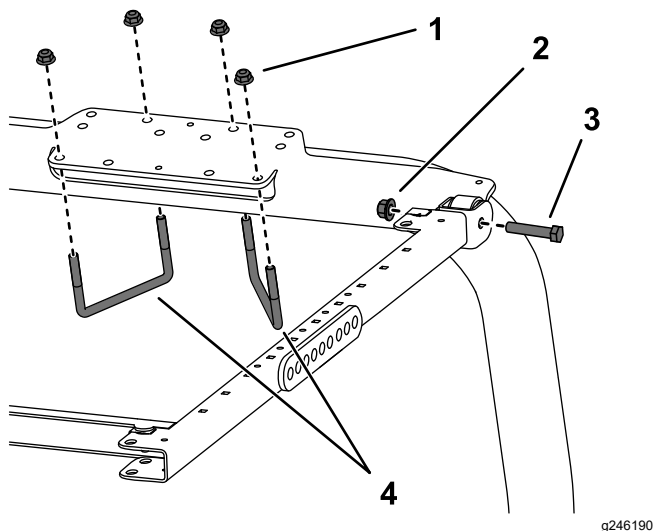

Figure 31
7. Position the ROPS-mount bracket onto the top of the traction unit roll bar (Figure 31). Make sure that the roll bar is centered in the ROPS-mount bracket.
8. Using the mounting holes shown in Figure 31, secure the ROPS-mount bracket to the top of the roll bar with 2 U-bolts (4-1/2 x 2-3/4 inches) and 4 flange nuts.